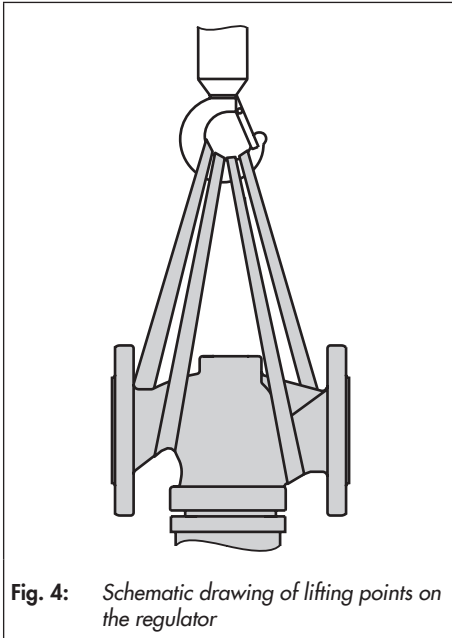

Fig. 4: Schematic drawing of lifting points on the regulator
1. Attach one sling to the flange of the body and to the rigging equipment (e.g. hook) of the crane or forklift (see Fig. 4).
We recommend using a hook with safety latch (see Fig. 4). The safety latch prevents the slings from slipping during lifting and transporting.